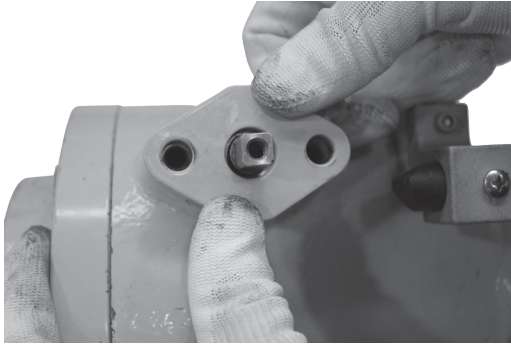

Figure 21. Line up holes (step 10)
10. Remove the retainer and fit it back on the gland so that the bolt holes line up as closely as possible with bolt holes in the body, Figure 21.